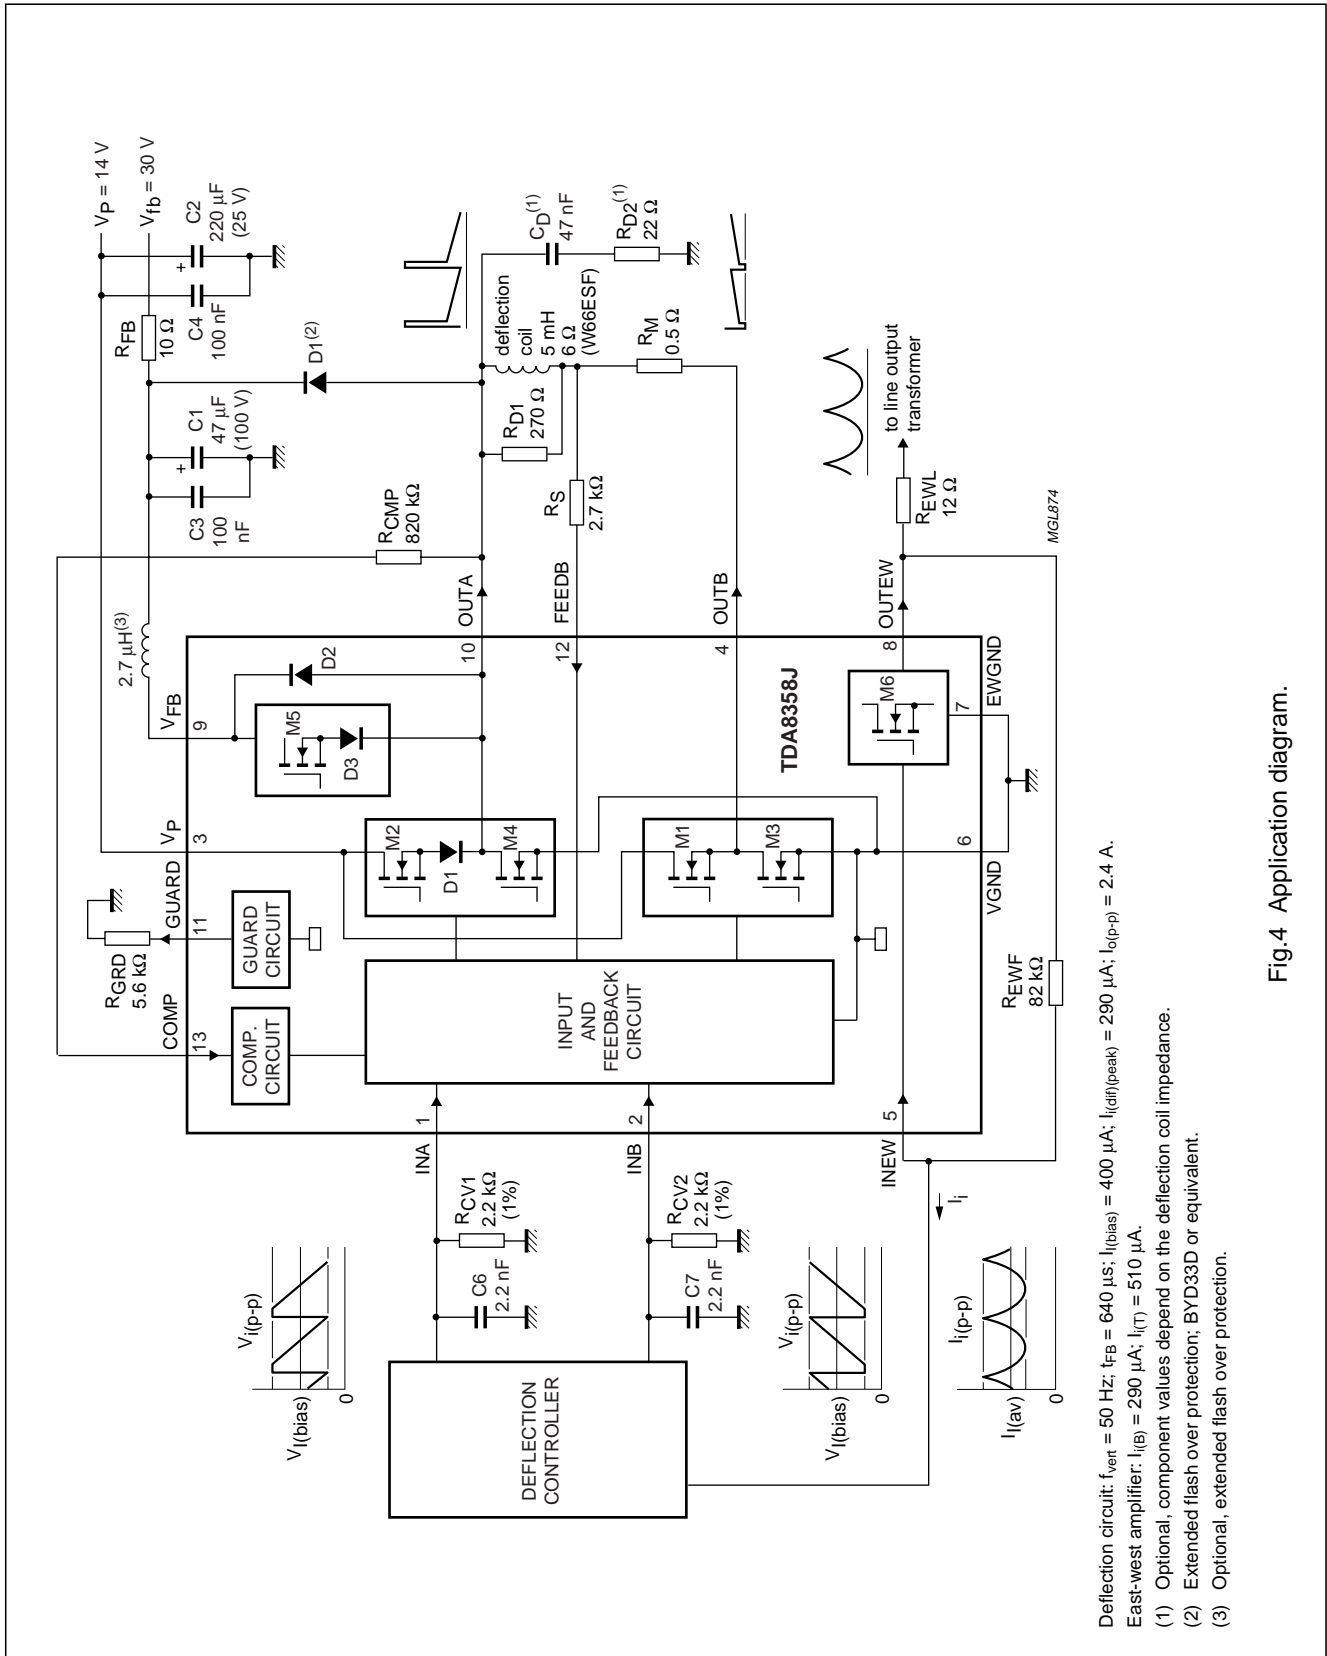

Fig.4 Application diagram.
- a) For $I_o = 100$ mA and a voltage of 9 V at R_{EWL} connected to the line output transformer, the east-west amplifier input current (see Fig.4) is $I_i = 300$ μ A.
- b) For $I_o = 500$ mA and a voltage of 21 V at R_{EWL} connected to the line output transformer, the east-west amplifier input current (see Fig.4) is $I_i = 350$ μ A.